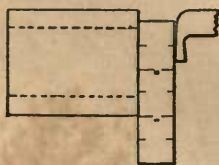

Fig. 12.
**Inside Thread.**—In Fig. 12 the manner of setting an inside square-thread tool is shown. The work is supposed to be held in a chuck, the hole bored to size, and the end "squared up."